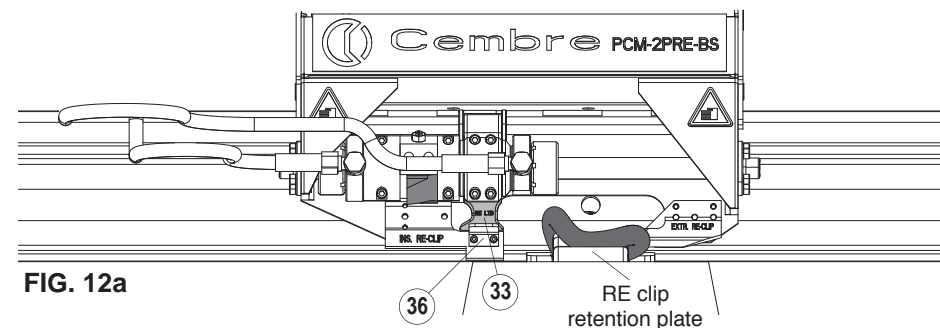

FIG. 12a
**Make sure the locking knob (27) of the wheel is released (see § 4.2).**
- Make sure the teeth (33) of the clamps are moved fully forwarded by pulling the control lever to the right in **"INSERT"** position.
- Completely lower the machine, **positioning the insertion contrast, marked by the yellow locator plates (36) near the RE-clip retention plates** (see Fig. 12a).